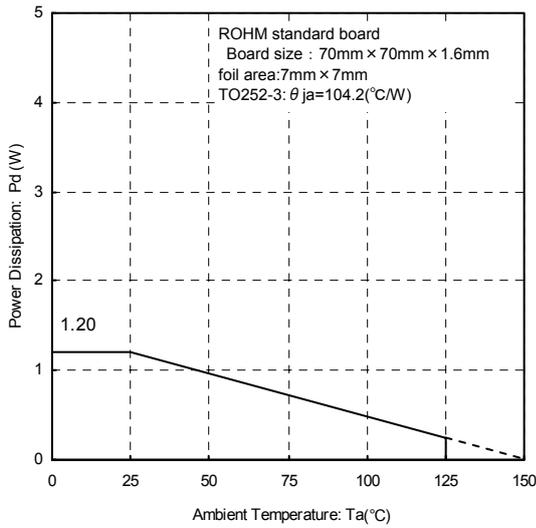
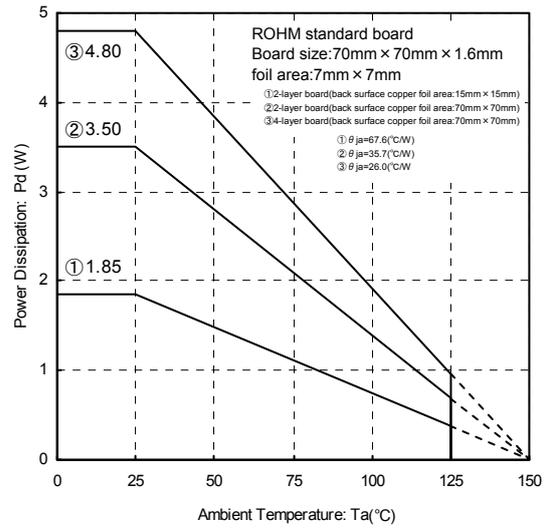

Fig.11
Fig.12
When using at temperatures over $T_a=25^\circ\text{C}$, please refer to the heat reducing characteristics shown in Fig.11 and Fig.12. The IC characteristics are closely related to the temperature at which the IC is used, so it is necessary to operate the IC at temperatures less than the maximum junction temperature $T_{j\text{max}}$.
Fig.11 and Fig.12 shows the acceptable loss and heat reducing characteristics of the TO252-3 package. Even when the ambient temperature T_a is a normal temperature (25°C), the chip (junction) temperature T_j may be quite high so please operate the IC at temperatures less than the acceptable loss P_d .
The calculation method for power consumption $P_c(\text{W})$ is as follows : (Fig.12③)
$$\left(\begin{array}{l} \text{Fig.12③: } \theta_{ja}=26.0^\circ\text{C/W} \rightarrow -38.4\text{mW}/^\circ\text{C} \\ 25^\circ\text{C}=4.80\text{W} \rightarrow 85^\circ\text{C}=2.496\text{W} \end{array} \right)$$